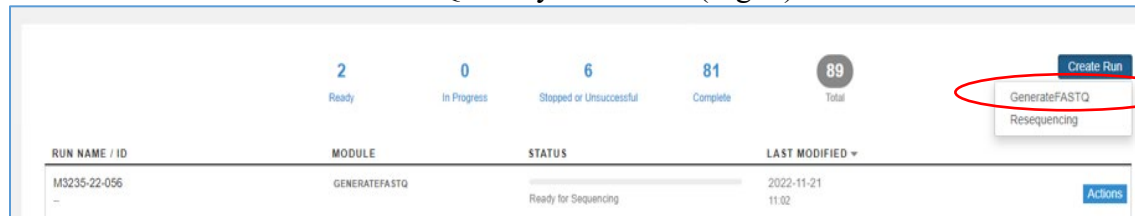

Figure 7. GenerateFASTQ module option in Local Run Manager.
- 1.4.3. Select the “GenerateFASTQ” analysis module (Fig. 7).